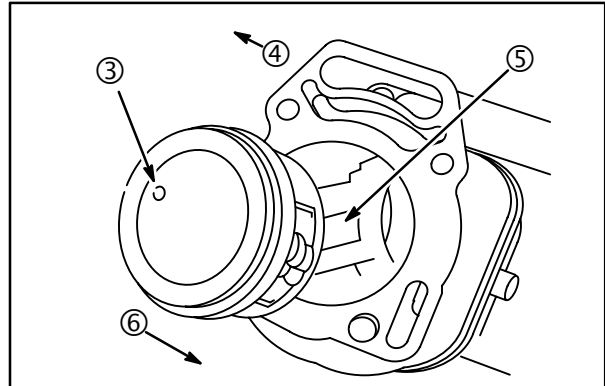

Fig. 3
3. Install #1 piston with notch or offset casting mark (3) toward the FLYWHEEL SIDE of the engine (4), **Fig. 3**. Push piston down by hand until connecting rod is seated on crankpin.